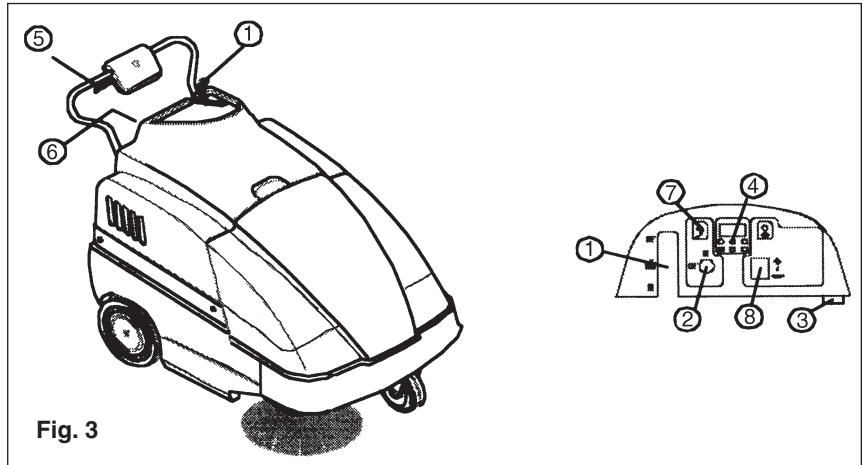

Fig. 3
- Make sure the side brush (#1, Fig. 3) is **OFF**.
- Turn the switch (#2, Fig. 3) **ON**. Wait 10 seconds before the machine sets off.
- Before the machine sets working, check the indicator (#4, Fig. 3) to assess whether the battery is fully charged. If it is not, proceed to recharge it.
- Pull the traction lever (#5, Fig. 3) to start cleaning.
If necessary, operate lever (#1, Fig. 3) by turning it **ON**, to start the side brush. If you have been using the side brush, at the end of your work remember to turn it **OFF**. Switch off the machine and remove the key from the control panel. An automatic device will prevent you from using the machine beyond a certain battery charge limit. When this limit is reached, the machine will stop and the battery **must be recharged**.
Plug in a battery charger (#3, Fig. 3) bearing up .
The life of the battery will depend on its routine maintenance and on its discharge level. Do not allow the battery charge to drop below the limit signalled by indicator lights (#4, Fig.3). At the max. discharge level, the machine stops and needs to be recharged in order to resume working.
- A. Press and release the lever of the appropriate filter shaker, (#6, Fig. 3). The lever operates a rod that will unclog the filter. Repeat this operation 5 or 6 times.